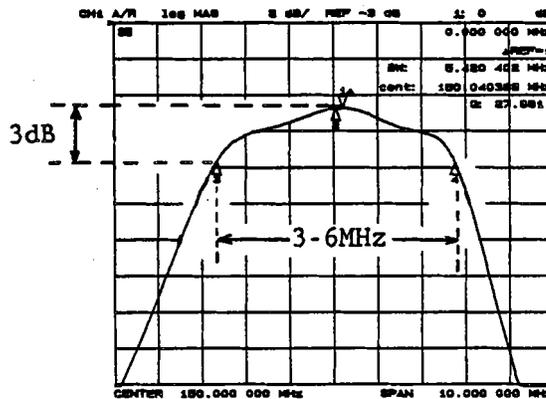

Figure 3-64. Receiver First IF Converter 86.6 MHz BPF Adjustment Example 1
5. Adjust A22L2, L6, L7 and L9 (86.6 MHz BPF ADJ) until the Network Analyzer displays a trace similar to that shown in Figure 3-64. The following are the conditions of the target trace.